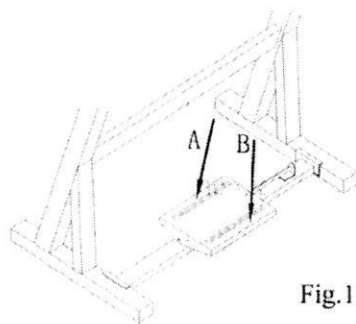

Fig.1
(1) After machine installation, connect the machine cable with the main electricity supply (controlling that the voltage and frequency of the main supply line are the same as those supply to motor.) and connect the filter-reducer unit to the compress air supply (pressure to be set for this machine – 6 bar).
(2) Start pedalswitch on the machine to watch if the rotation of motor is conformable to the red arrow on the belt cover . If the direction is opposite , switch in the other way round. Then operate the pedal in three different movement(Fig 1)